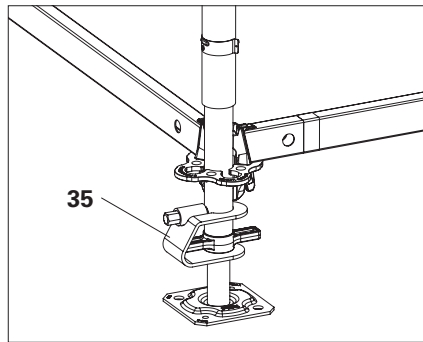

Fig. C1.01
1. Secure Base Spindles UJB with Spindle Locking UJS (**35**). (Fig. C1.01)